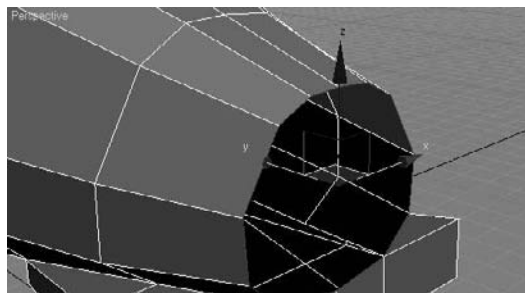

Figure 5.87
3. In the Edit Poly modifier, go into Borders mode and select the edge in the back of the body, as shown in Figure 5.87.